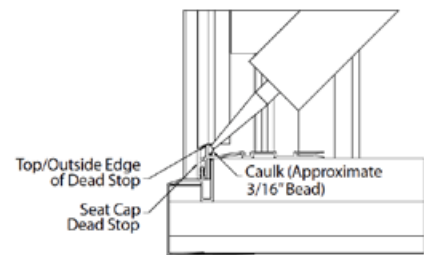

Figure C3
7. The last dead stop surface that will need sealed is located on the seat cap. Apply a moderate (3/16") bead of caulk across the seat dead stop using the top/outside edge as a guide **(Figure C3)**